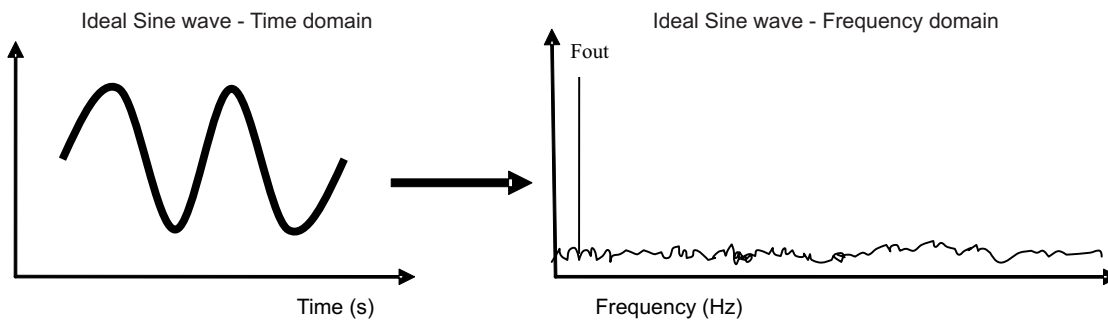
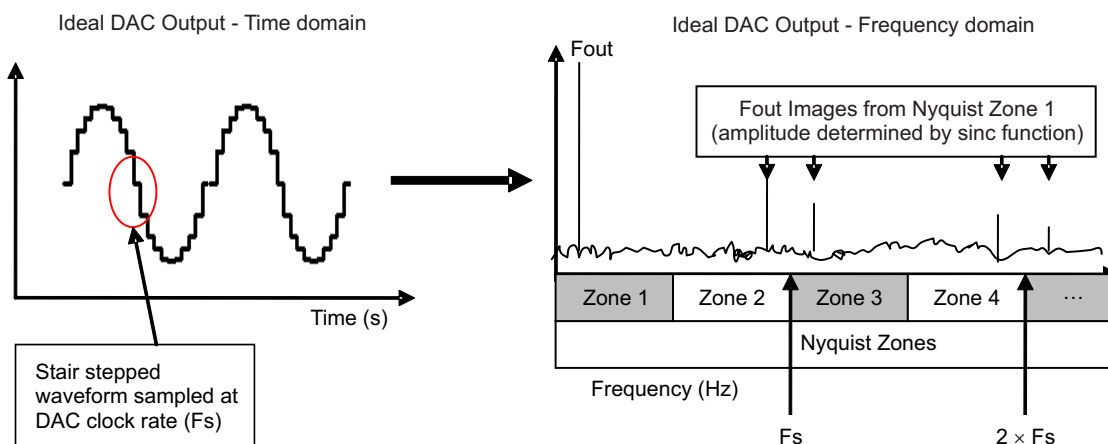
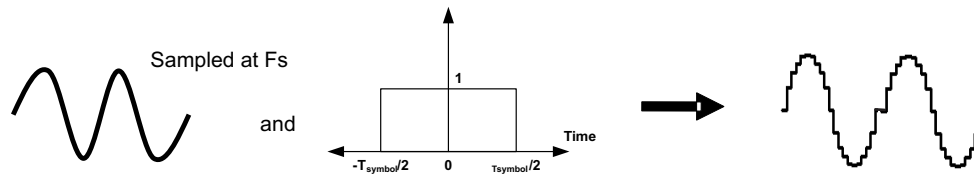

Figure 6. Ideal Sine Wave
Figure 7. Ideal DAC Sine Wave
Figure 10. Convolution in the Time Domain
Why do the frequency domain plots differ in Figure 6 and Figure 7? The answer lies within the red circle in Figure 7's time domain plot. For ease of explanation, there are 2 differences in Figure 7's Frequency domain plot that will be discussed. 1) Why do the F_{out} images exist in every Nyquist zone? (What is a Nyquist Zone?) 2) Why do the F_{out} images decrease in amplitude?
1) In Figure 7, why do the F_{out} images exist in every Nyquist zone? What is a Nyquist Zone?
Using Equation 1 in conjunction with Figure 7, $X(f)$ would be $\sin(f)$ and the sample rate is F_s . Using Equation 1 this expands to $X(f) = \sin(f + \infty \times F_s) \dots + \sin(f + 2 \times F_s) + \sin(f + F_s) + \sin(f) + \sin(f - F_s) + \sin(f - 2 \times F_s) \dots + \sin(f - \infty \times F_s)$.
In Figure 7, what is not shown is the $-F_{out}$ plot of the spectrum. Adding F_s to F_{out} and $-F_{out}$ results in the tones shown in Nyquist Zones 2 and 3. Likewise adding $2 \times F_s$ to F_{out} and $-F_{out}$ results in the tones shown in Nyquist Zones 4 and 5. This explains why the F_{out} exist in every Nyquist zone in Figure 7.
The DACs sampling nature creates the analog output to have a zero order hold function at each sample. This is shown pictorially in Figure 10 and Figure 11. The math behind these concepts is described in many textbooks and is a very lengthy topic. The decreasing amplitude of the F_{out} images in Figure 7, and Figure 11 are determined by the sinc function of the zero order hold as a result.